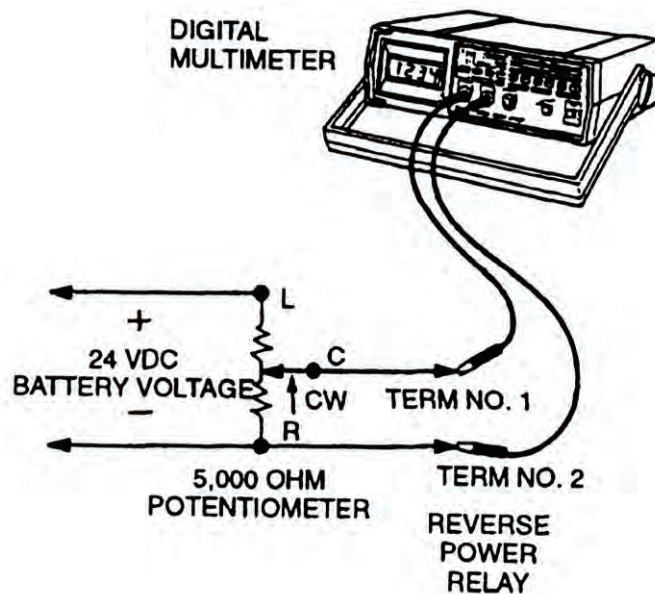

Figure 1. Reverse Power Relay Test Setup.
6. Set up a test circuit (Figure 1). Connect 24 VDC source to terminals L and R of potentiometer. Connect a wire between terminal C of potentiometer and terminal 1 of reverse power relay. Connect a second wire between terminal R of potentiometer and terminal 2 of reverse power relay. Set multimeter for DC volts and connect positive lead of multimeter to terminal 1 and negative lead to terminal 2 of reverse power relay.
4. Tag and disconnect reverse power relay (WP 0043, Figure 1, Item 51) electrical leads.
5. Remove screws (50) and reverse power relay (51).
1. Install reverse power relay (WP 0043, Figure 1, Item 51) with screws (50).